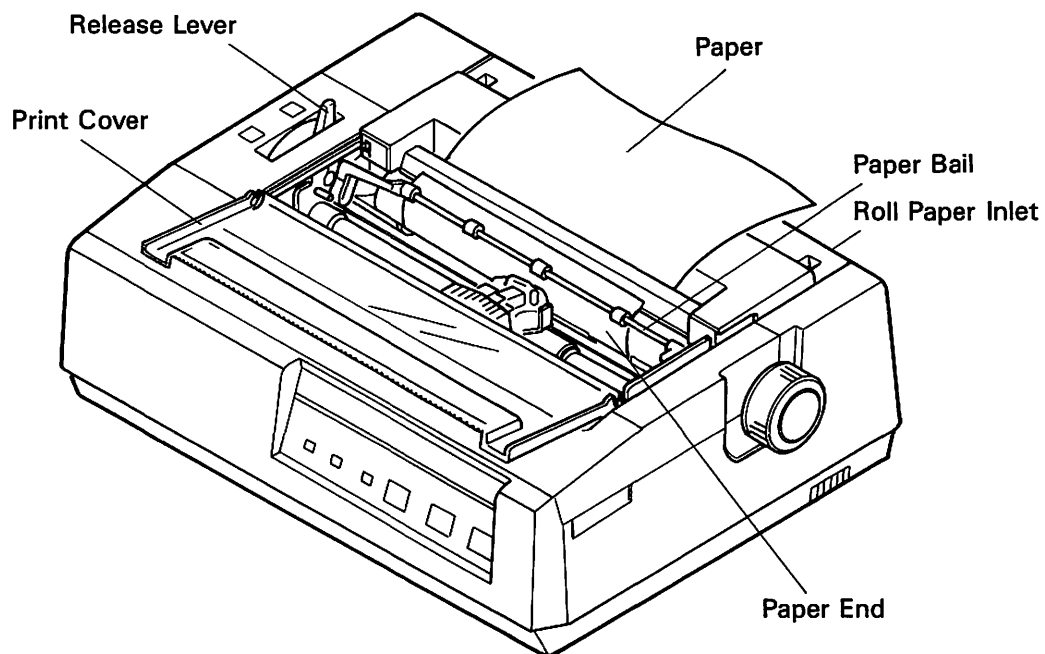

Fig. 2-8
- 5) Pull the release lever toward the front (to the friction feed position). Push back the paper bail and close the print cover. (See Fig. 2-8)
- 6) Finally, use the platen knob to place the paper in the initial printing position. (See Fig. 2-8)